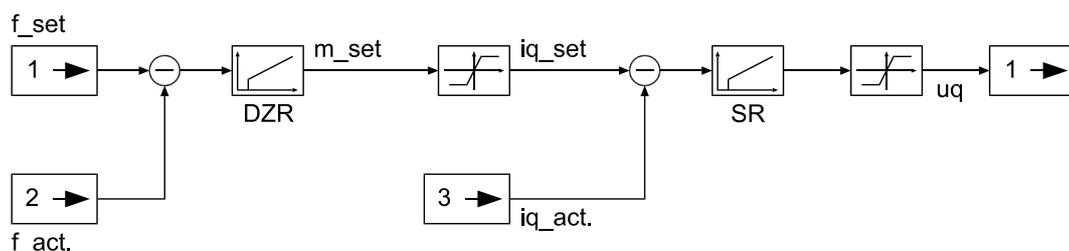

Figure 6.3
10. The dynamic behaviour of the drive depends very greatly on the setting of the controllers. Application “50 – *SLV*[®] rotational speed control” also features a speed controller (see Figure 6.3) besides the current controller. Whilst the current controller has already been adjusted using the Autotuning function, this must be done manually for the speed controller. The speed controller must be adapted to the load conditions using parameters **B1 – Speed controller gain** and **B2 – Reset time of speed controller**. Parameters B1 and B2 must be adapted step-by-step and alternately until the drive displays the required behaviour in relation to dynamic response and overshoot. In principle, optimization can also be performed for *SLV*[®] speed control using the same method already described in Section 6.7.3, “Controller Optimization”.